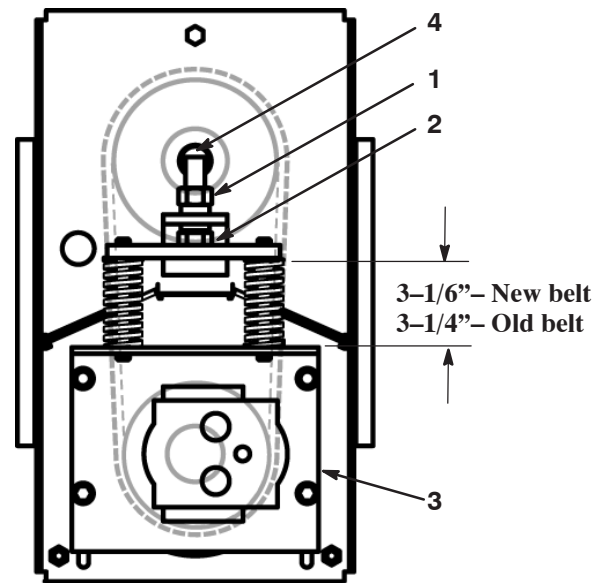
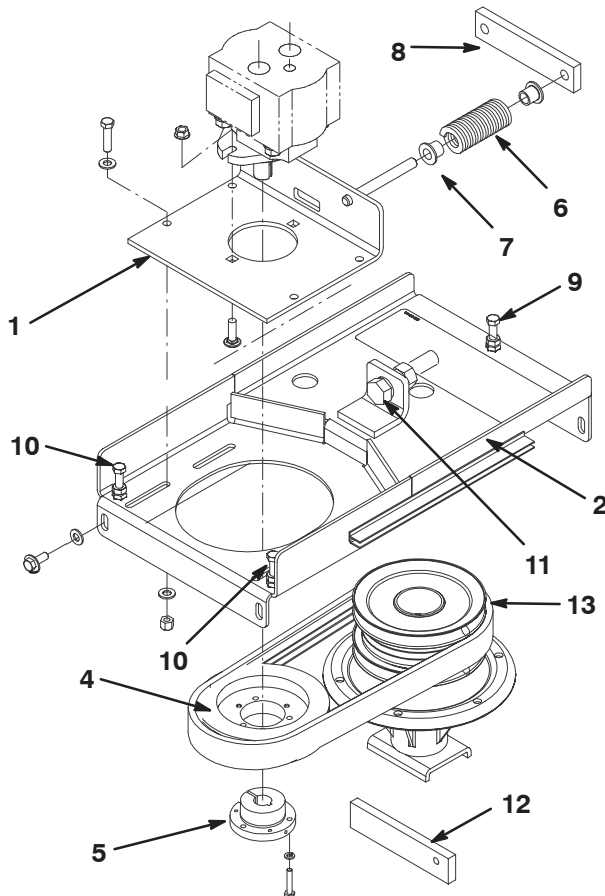

Figure 67
Figure 69
3. Loosen jam nut and relieve tension on springs with tensioner bolt (Fig. 67).
4. Loosen (4) capscrews securing slide plate to motor mount (Fig. 67).
5. Tighten tensioner bolt until springs are compressed to dimension shown in figure 67.
6. Tighten jam nut securing adjustment (Fig. 67).
7. Tighten (4) capscrews securing slide plate to motor mount (Fig. 67).
2. Loosen jam nut and relieve tension on springs with tensioner bolt (Fig. 69).
4. Thread the nut onto the adjusting screw and thread the screw into the rear of the motor mount (Fig. 69).
5. Loosen the (4) capscrews securing the slide plate to the motor mount (Fig. 69).
6. Remove the (4) flangehead capscrews and washers securing the motor mount to the deck (Fig. 69).
8. Position motor mount onto deck while routing belt around drive pulley (Fig. 69). Be careful not to bend, twist, kink or damage flexible hydraulic lines.
9. Loosely secure motor mount to deck with the (4) flangehead capscrews and washers previously removed.
10. Check the drive pulley (Fig. 69) height as follows:
- Slide the height gauge (Fig. 69) under drive pulley (not under taper lock bushing).
- Equally tighten or loosen (3) adjusting screws (Fig. 69) until bottom of pulley rests flush on height gauge (approximately 1-1/2").
- Tighten the (4) flangehead capscrews and washers securing motor mount to deck.
11. Tighten tensioner bolt until springs are compressed to dimension shown in figure 67.
12. Tighten jam nut securing adjustment (Fig. 67).
13. Tighten (4) capscrews securing slide plate to motor mount (Fig. 67).
4. Loosen (4) capscrews securing slide plate to motor mount (Fig. 69).
5. Remove (4) capscrews securing motor mount to deck (Fig. 69).